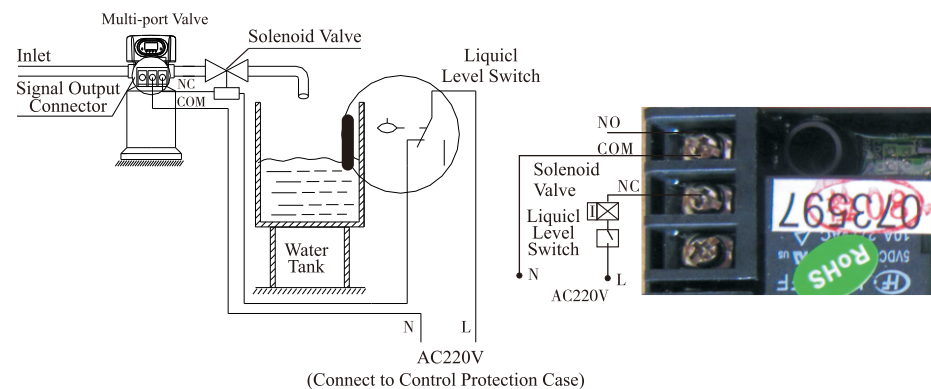

Figure 3-1 Wiring of Solenoid Valve on Outlet
**Instruction:** Solenoid valve on outlet controls water level in brine tank. If system strictly requires no hard water flowing from outlet in regeneration cycle (Mainly for no hard water flows out when valve is switching or valve in backwash or brine drawing positions), a solenoid valve could be installed on outlet, the wiring refer to Figure 3-1 :